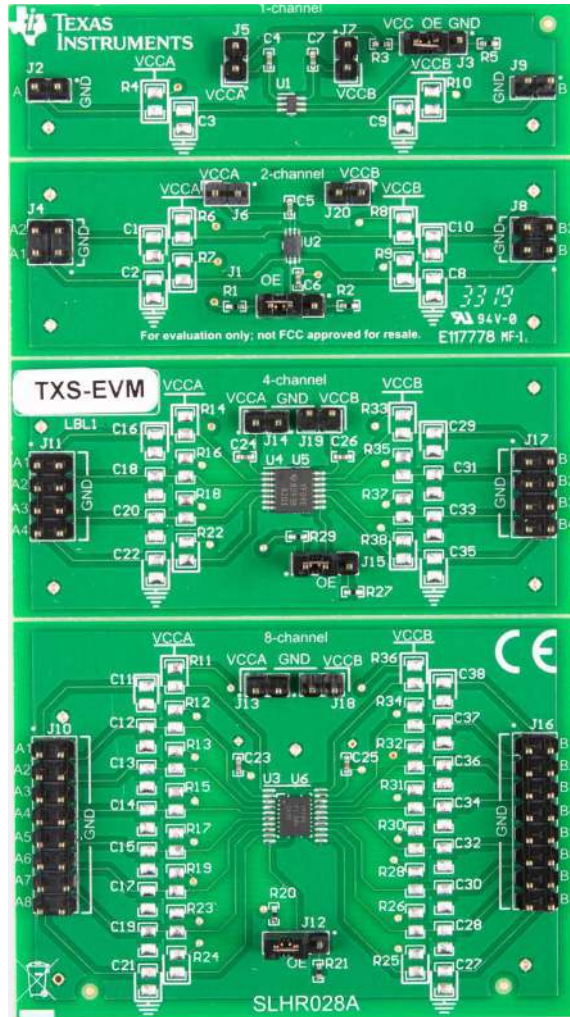

Figure 1-1. TXS-EVM
Each data I/O trace connects to an 0805 surface mount (SM) pad with access to V_{CCA} for customizable pull-up resistors and an 0805 SM pad with access to GND for a customizable load. Large pads were chosen for ease of access and the option to compose a load out of multiple, smaller, SM components if desired (for load tests, rise/fall time adjustments, etc..). Figure 1-1 shows the SM pad locations. Pull-down pads are marked with a ground symbol, pull-up pads are marked with a power port symbol on the board.